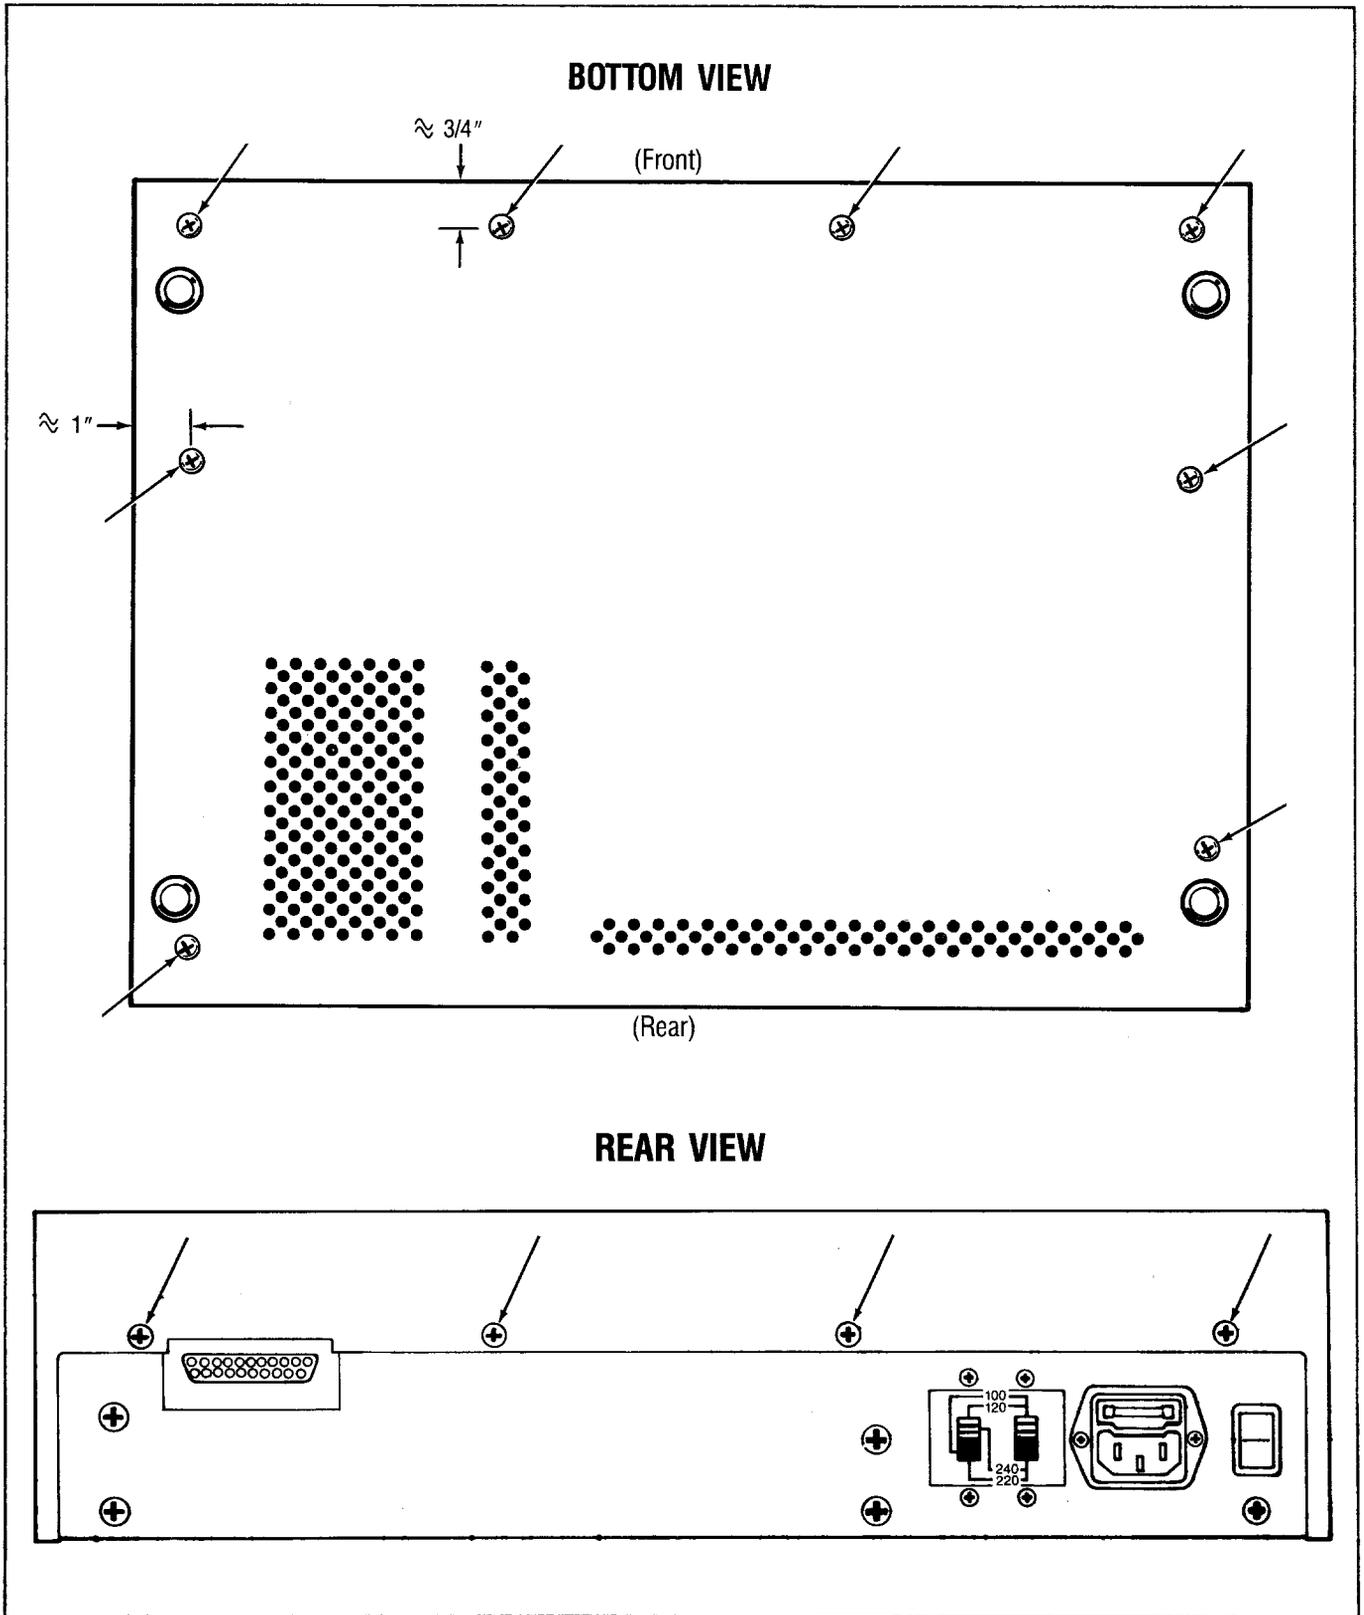

Fig. 8. Cover Screw Location.
COVER REMOVAL (Refer to Fig. 8)
2. Remove the eight machine screws which fasten the cover to the chassis bottom. These screws are located one-half inch from the edge of the chassis, as shown in Fig. 8.